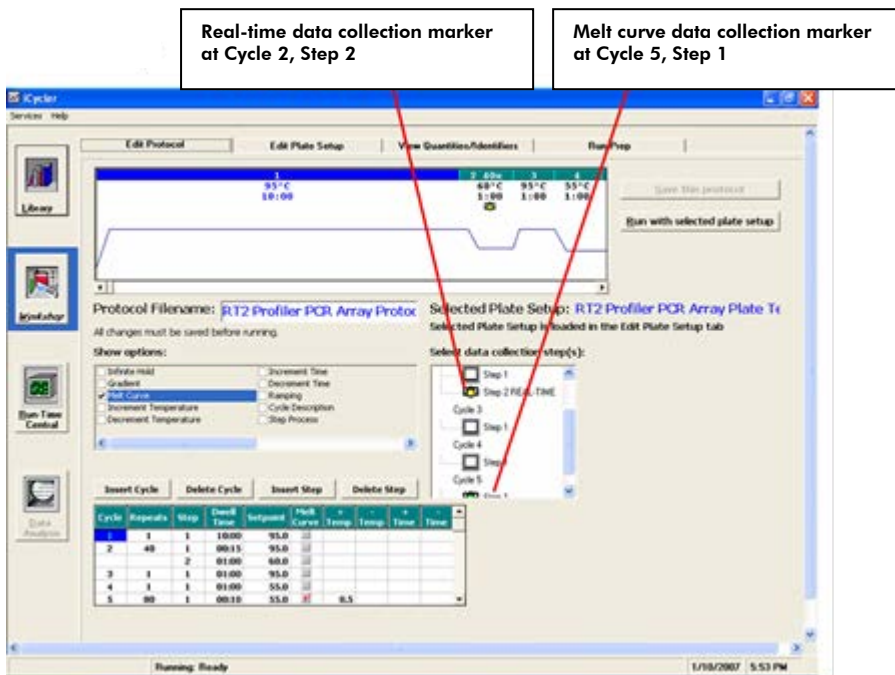

Figure 1. Protocol setup.
2. Click on the “Library” module on the left panel. Select the “View Protocol” tab. Under “Protocol Files,” select “2StepAmp+Melt.tmo.” Click “Edit This Protocol” on the right; this will open the “Edit Protocol” tab in the “Workshop” module. Edit the thermal profile in the table at the bottom of the screen as follows (see Figure 1):